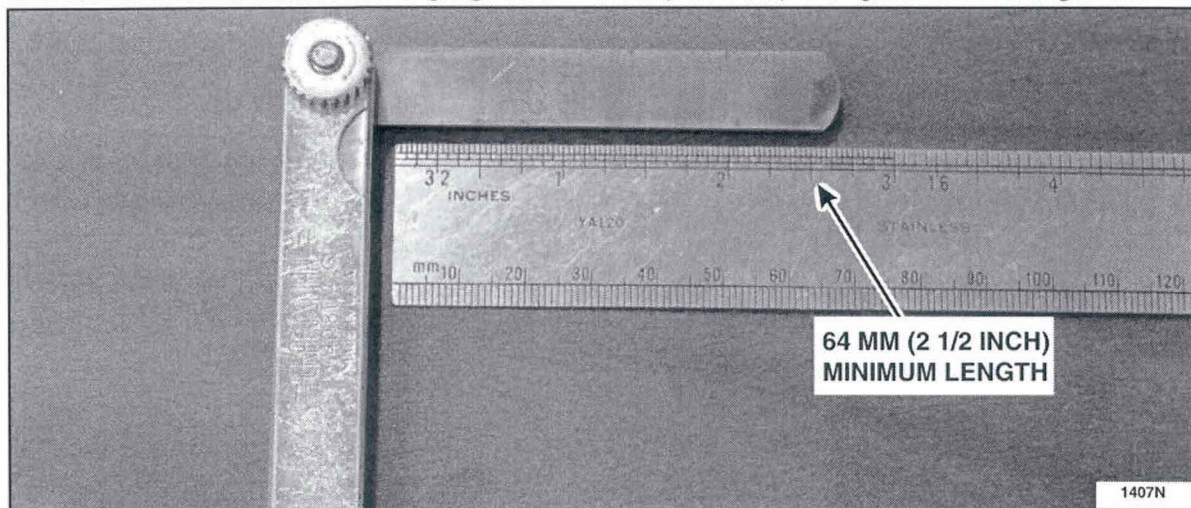

FIGURE 1
1. Obtain a standard flat blade feeler gauge with a 64 mm (2 1/2 inch) or longer blade. See Figure 1.